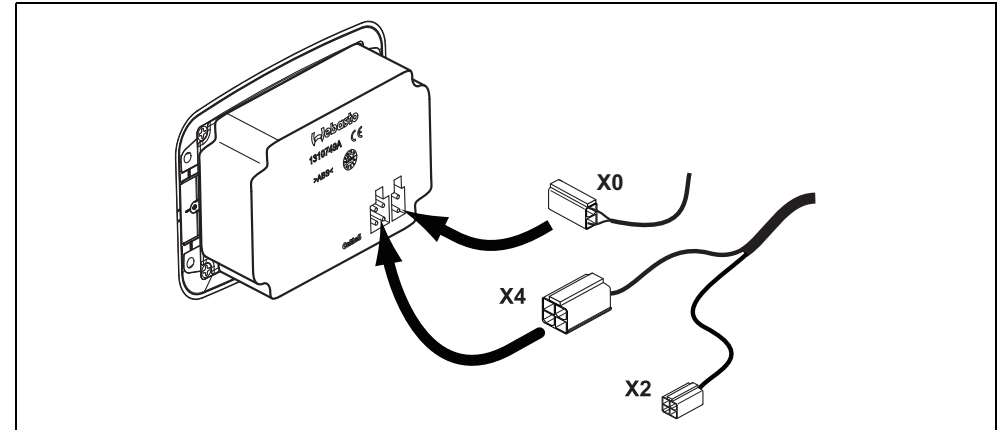

Fig. 49: Electrical connections of manual control panel
- Connect plug X4 (4 poles) of the wiring harness to the control panel (see Fig. 49).
- Connect plug X0 (2 poles) of the inside temperature sensor to the control panel (see Fig. 49).